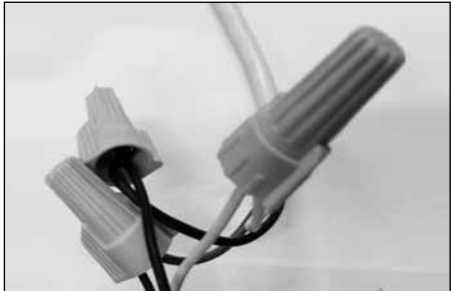

Fig. 1
- Connect building wires to LED driver input wires as such: white to white [neutral], black to black [hot], and green to green/bare [ground]. **[Fig. 1]**